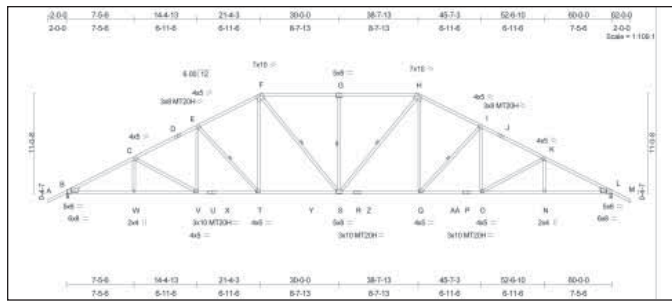

Figure 8
**The Board Footage Myth** • Continued from page 36 in Figures 8 and 9, and the lumber, plates and labor tabulated in Table 5. The “board footage cost” when adjusted for size, grade, and length and plate area are virtually identical! The cost benefit
60' Truss w/ 2x4 Chords (Figure 8)